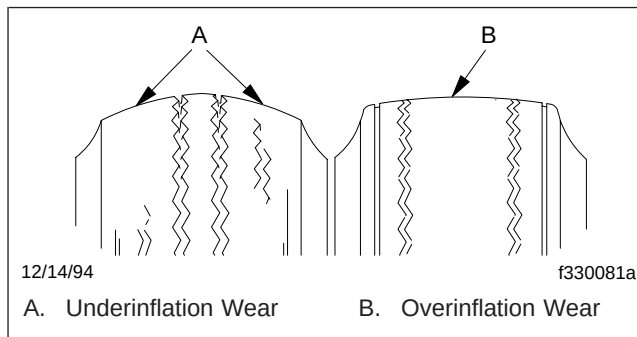

Fig. 1, Tire Damage Due to Underinflated or Overinflated Tires
3. Check the inflation pressure of the tires. Refer to **Group 40** in this manual for recommended pressures. An underinflated tire causes tread wear completely around both tire shoulders. An overinflated tire causes tread wear in the center of the tire. See Fig. 1.